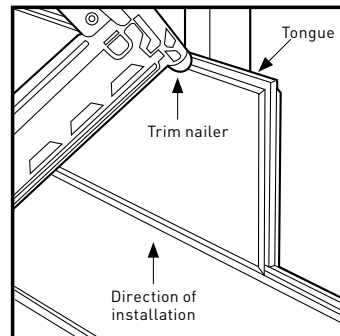

Figure 1
3. The first course of planks will need to be nailed along both edges. Succeeding tiles will interlock and only require a nail along the tongue side. Begin by nailing the first plank in place by nailing into studs whenever possible. If nails cannot be nailed into studs it is recommended to use a quality construction adhesive to ensure a solid long term installation. (Figure 1)